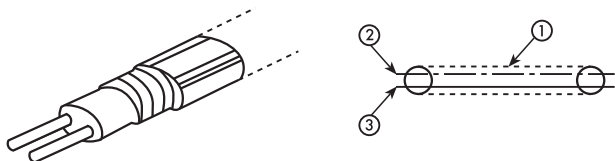

Fig. 3 Construction of a balanced audio cable
Balanced cables consist of shielding (1) and two conductors (Fig. 3). The signal acts independent of shielding of ground. Interferences on the ground wire do not affect the signal path, thus the term ungrounded. The two conductors are phased opposite.